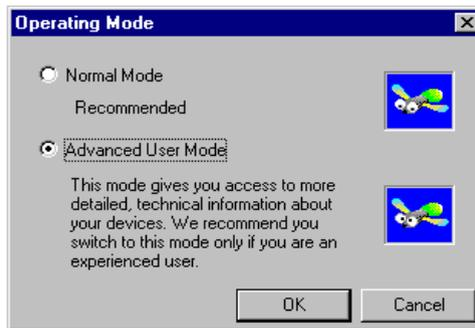

Figure 4-7: Operating Mode Selection Window
2. Click on *Operating Mode* to call up the window shown in Figure 4-7.